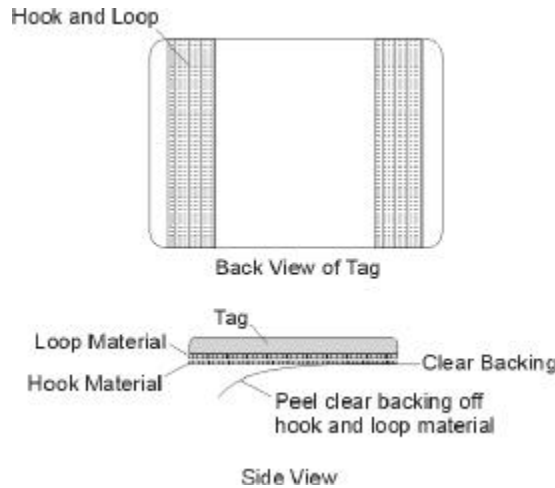

Figure 3-3 Hook-and-Loop Material on Interior Tag
- Remove the clear backing from the two strips of hook-and-loop material on the back of the tag (Figure 3-3) or from the double-sided tape.